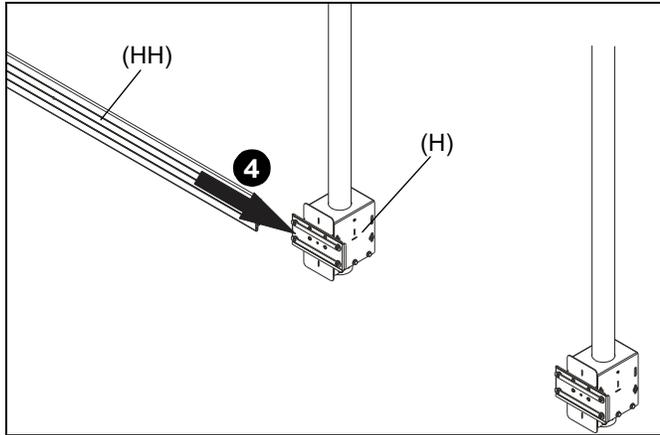

Figure 4
- Slide 2 x 1 rail (HH) onto one of two assemblies (H) attached to column. (See Figure 4)